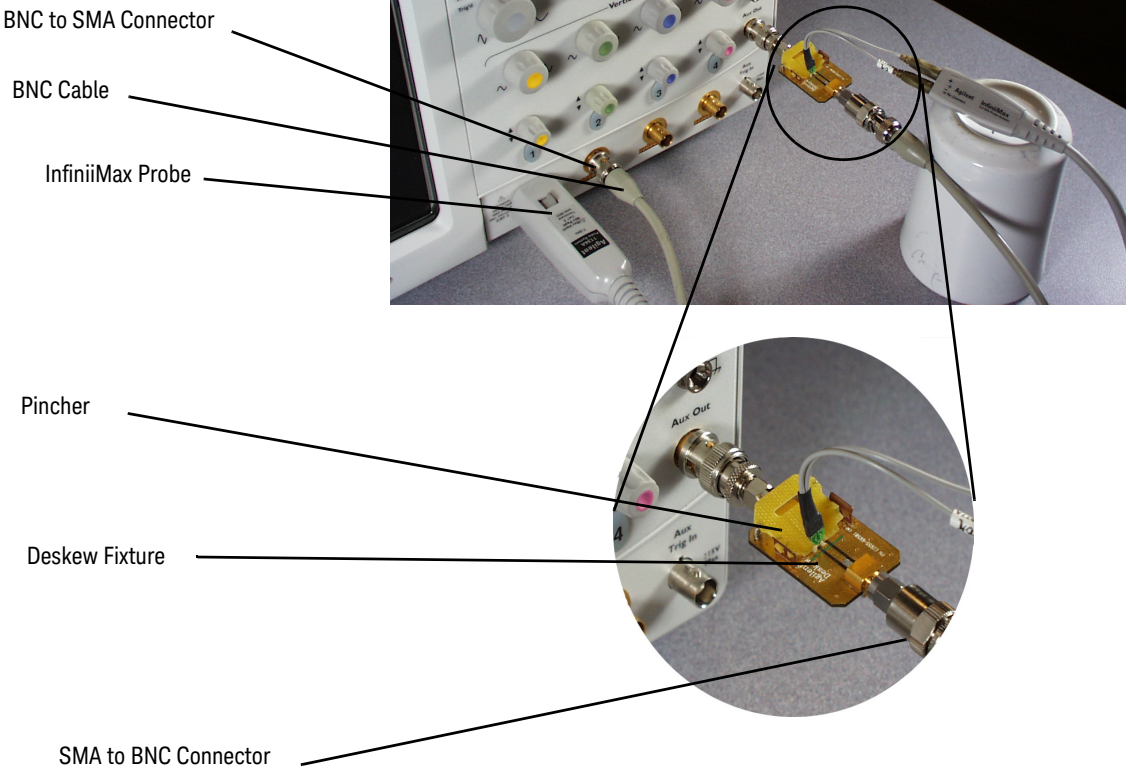

Figure 52 Connecting the Probe
- 1 As shown in **Figure 52** on page 85, connect BNC (male) to SMA (male) adapter to the deskew fixture on the connector closest to the yellow pincher.